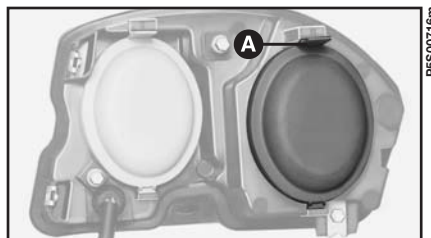

fig. 12
1) Remove the protective cap by pulling tab **A**-fig. 12 downwards.